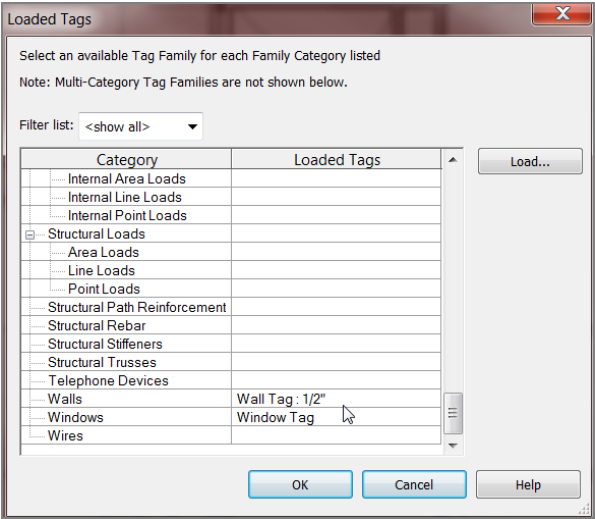

FIGURE 11.64: Changing the default tag for walls to Wall Tag : 1/2"
- 11. In the Tags dialog box, scroll down to Walls, as shown in Figure 11.64.